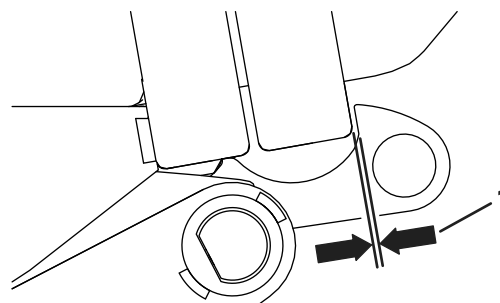

Figure 5
4. Check the gap between the hook and the closed hopper door. Ensure that the gap is 2 mm (1/16 inch) and adjust if necessary (Figure 5).